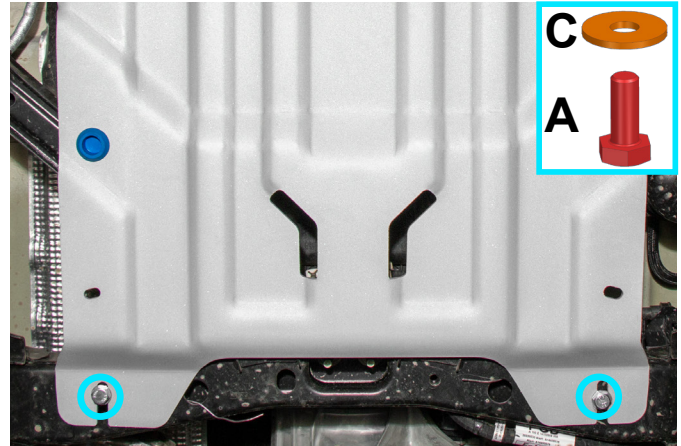

Fig. 7
6. Secure the rear of the transmission skid plate (item 1) to previously installed brackets (item E) using M10x35 bolts (item A) and M10 washers (item C) as shown in fig.7.